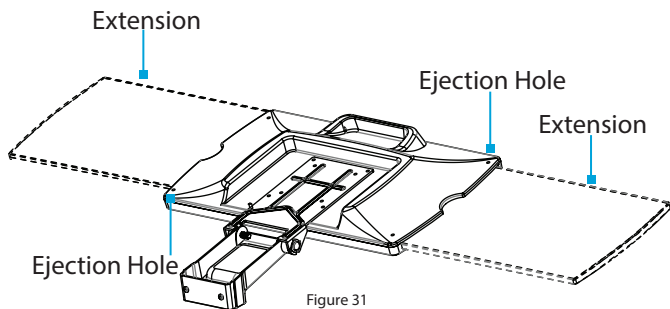

Figure 31
3. Insert a **Pin** into one of the two **Ejection Holes**, located on the underside of the **Keyboard Tray**, and pull the corresponding **Extension** out from the **Keyboard Tray**. (Figure 31)